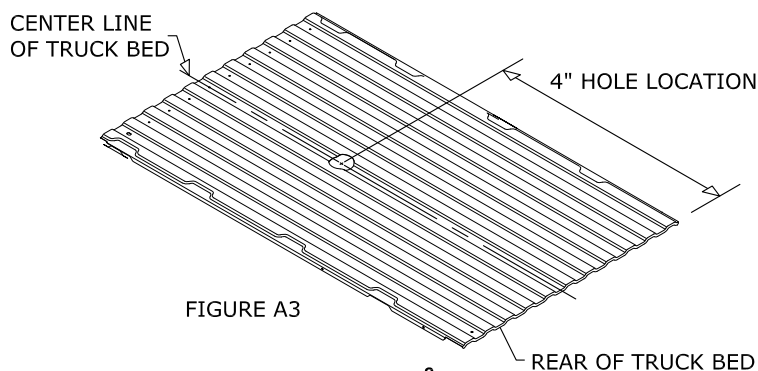

FIGURE A3
7. **Mark the 4" hole location.** Using a tape measure hooked over the rear edge of the bed (at tailgate end), measure the location for the hole as shown in figure A3. Next, locate the center of the bed by measuring the distance between the wheel wells and dividing by two. The center of the hole will be at the intersection of the center of the bed and the first distance measured.